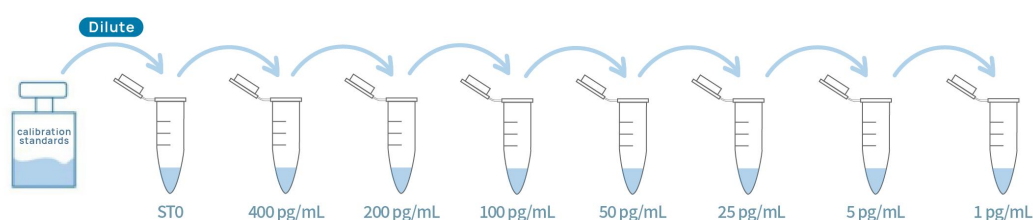

Figure 3. Graphic scheme of Calibration Standard Solutions preparation
(3) Preparation of Calibration Standard Solutions
- Prepare Calibration Standard Solutions as indicated in Fig 3 and Table 3.